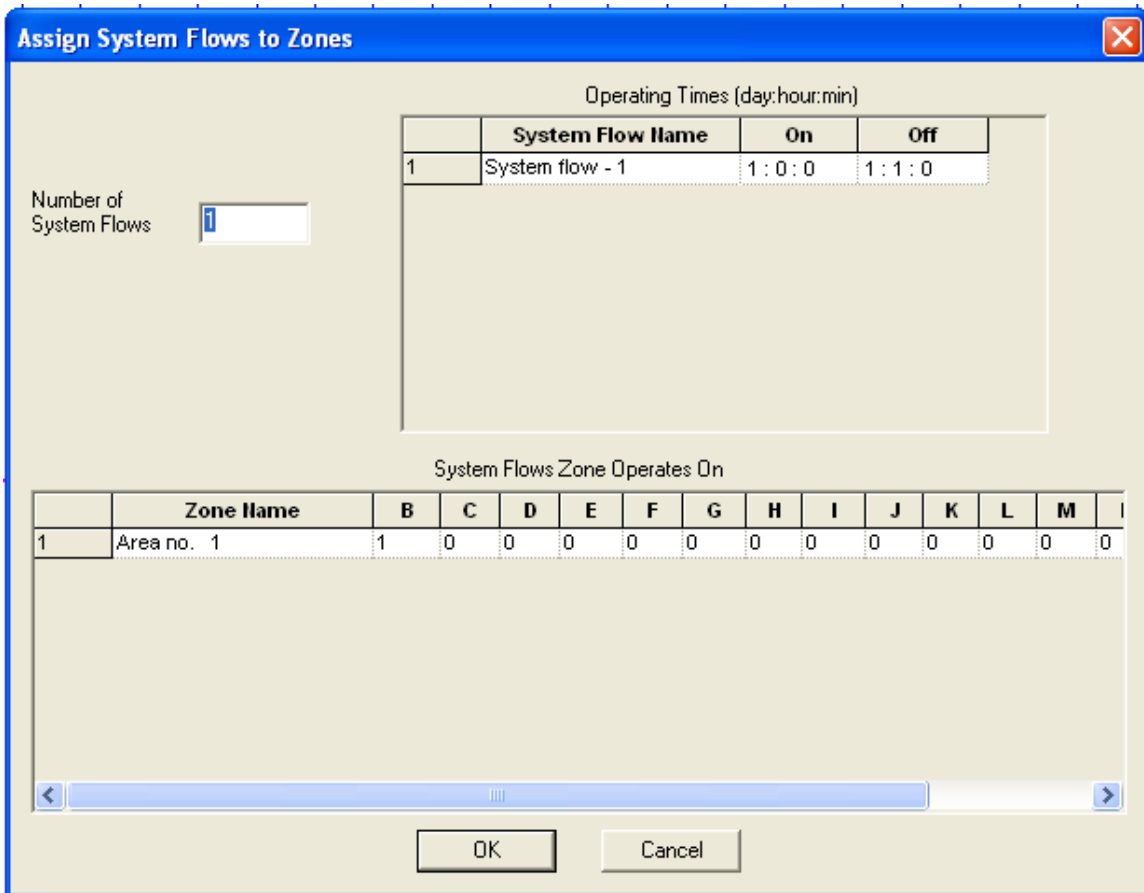

Figure AD 4
10. Now we wish to assign the zones to system flows. Select *Design|Assign All Zones to One System Flow* as we only have one Zone (control valve or block). You will notice that "Area no. 1" will operate on **System Flow 1** as indicated Figure AD 4. Click [OK].